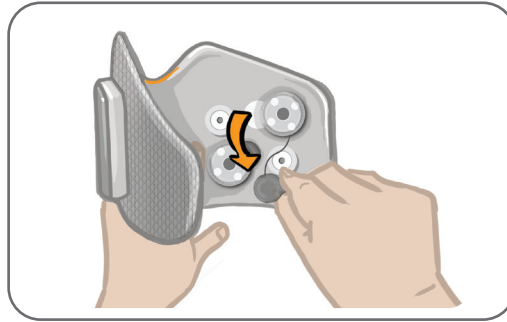

Figure 8-8: Removing the Used Electrode Bases
3. Disconnect the electrode base snaps from the plug holes. See Figure 8-8.
4. Remove the used electrode bases from the cuff. See Figure 8-8.